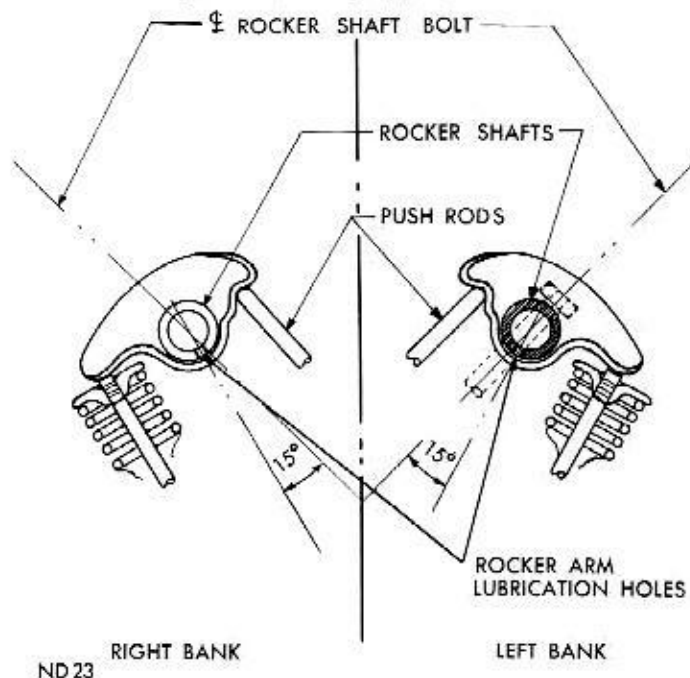

Fig. 5—Rocker Arm Lubrication Holes
(2) Install rocker shafts so that 3/16 inch diameter rocker arm lubrication holes point downward into the rocker arm, so that the 15° angle of these holes point outward towards the valve end of the rocker arms, (Fig. 5). This is necessary to provide proper lubrication to the rocker assemblies.